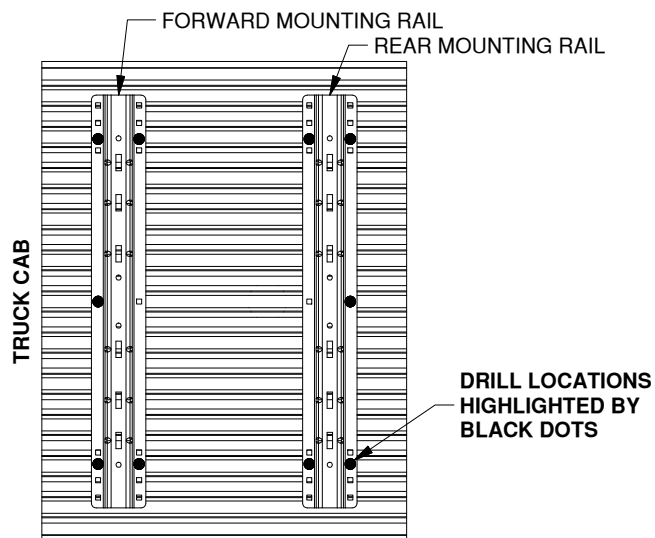

Figure A2: Detail view over bed, showing drill locations for the forward and rear bed rails.
2. **Mark the hole locations.** While carefully ensuring the mounting rail does not move, use a center punch tool to mark the five drill locations on the rear rail that match your truck's suspension style, shown in Figure A2. (Forward rails will install on a later step.) It is critical that the five drill locations be marked exactly in the center of the square hole in the rail. Once all five rear rail locations are clearly marked, move the bed rail out of the way and drill each location with an 1/8" drill.
2. **Drill forward mounting pilot holes.** Using the holes in the forward mounting rail, mark the five drill locations. Refer to "DRILL REAR MOUNTING HOLES" section, Step 2, on Page 2. Notice that the hole locations may be slightly different than the rear rail, see Figure A2. It is critical that the five drill locations be marked exactly in the center of the square hole in the forward rail. Drill each of the marked locations with a 1/8" pilot hole.